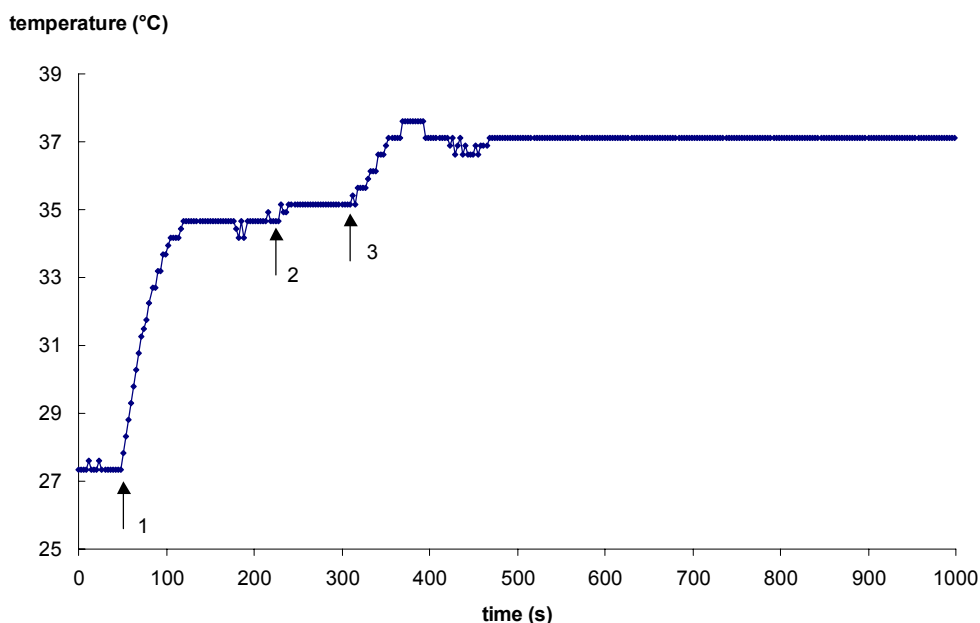

Figure 3: Time course of temperature regulation of the PTC-10.
- If the desired temperature is not reached first set the GAIN to a slightly higher level and then – if necessary – raise the INTEGRATION (see Figure 3).
In Figure 3 the time course of temperature regulation of the PTC-10 is shown. As resistive load a bulb (12V, 21W) was used. The temperature sensor was fixed directly on the bulb and sensor and bulb were wrapped with foam. Starting temperature was 27,3 °C. Starting conditions were: LIMITER set to 0, GAIN set to 0, INTEGRATION off.